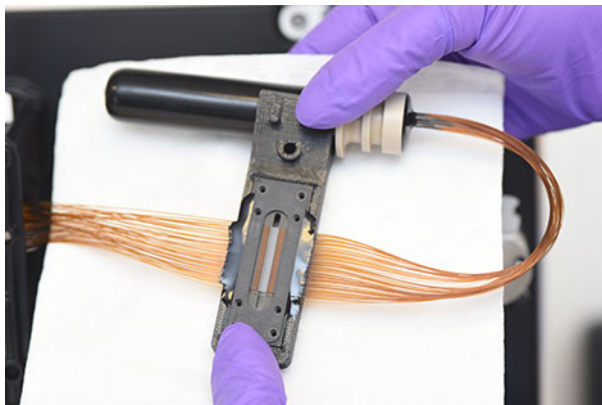

Figure 117 Capillary array window with paper towel behind
- 6 Place a paper towel behind the capillary array window as shown in **Figure 117**.